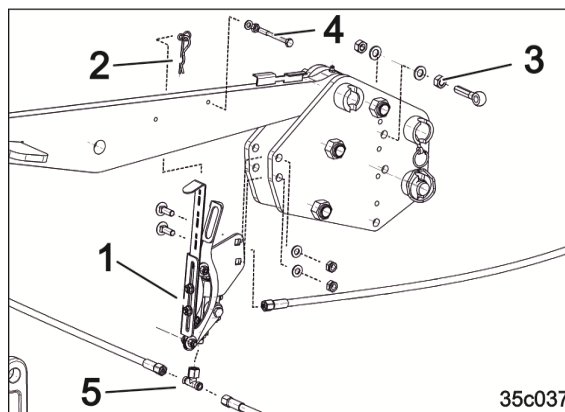

Fig. 89
6. Disconnect the hydraulic hose line from the mounted T-connector (Fig. 89/5).
7. Screw on the pre-assembled valve holder (Fig. 89/1).
8. Connect the hydraulic hoses to the new T-connector on the valve (Fig. 89/5).
9. Attach the white pull rope with the eyelet onto the catch hook (Fig. 89/2).
10. Mount the eye bolt as a rope guide (Fig. 89/3).
11. Mount the actuation bolt onto the top link (Fig. 89/4).